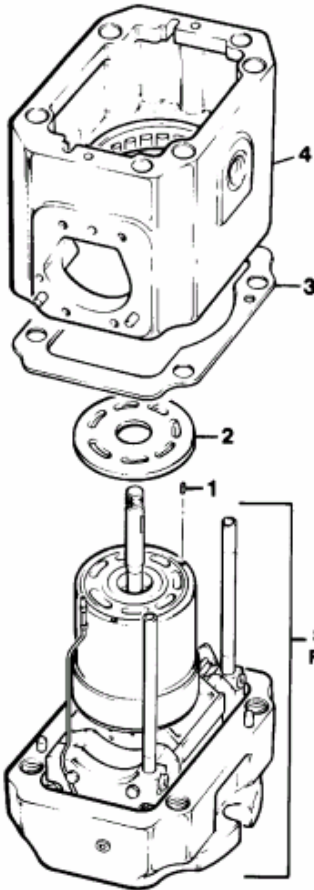

Figure 6
See Figure 6. Install the three face plate pins (1) in the holes provided in the barrel face.
PARTS LIST FOR FIGURE 6